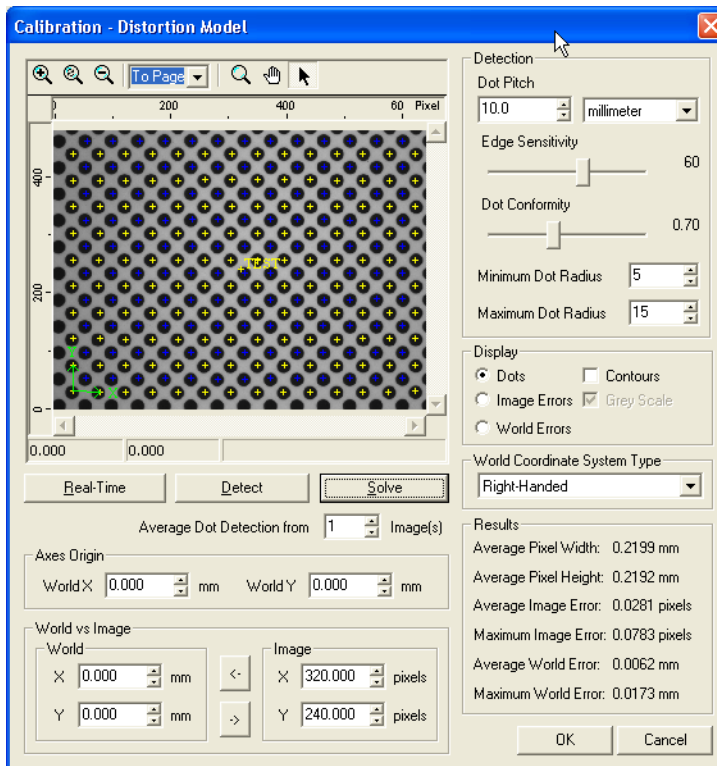

Figure 225 Distortion Model Dialog
2. Click **Show Calibration Dialog** to open the Distortion Calibration dialog illustrated in Figure 225.